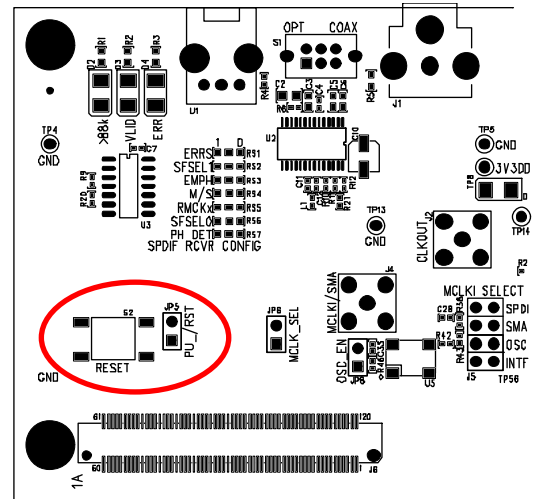

Figure 9. Reset Switch and Power-Down Jumper
The EVAL-ADAU196xAZ has provisions for resetting and powering down the ADAU196xA. S2 on the evaluation board, shown in Figure 9, is a momentary reset switch that pulls the master reset (MR) line low; this line controls the reset generator U10. MR is also connected to the USBi and the SDP interface connectors through steering diodes and protection resistors so that outside devices can control the reset state of the evaluation board as shown in Figure 25. The power-down jumper JP5 allows the MR line to be tied low. The output of the reset generator drives the PU/RST line.